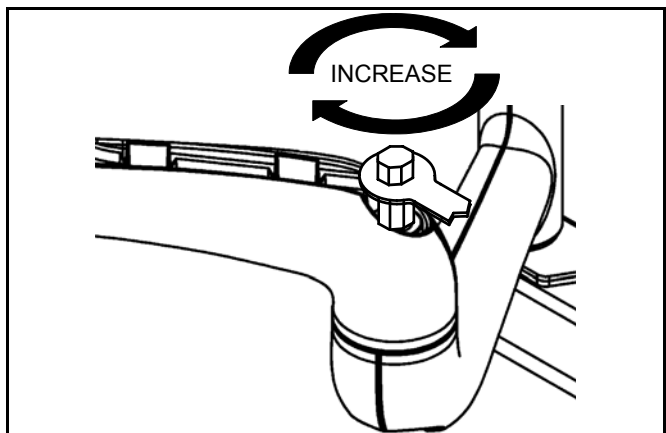

**Figure 11**
1. Locate the adjustment bar (H) and adjustment wrench (J).
2. Place adjustment bar (H) into socket head cap screw located at swing arm pivot point. (See Figure 11)